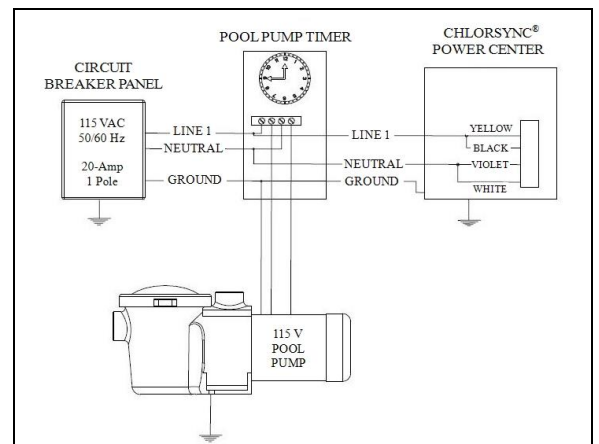

Figure 8
- See **Figure 8** for basic wiring to equipment.